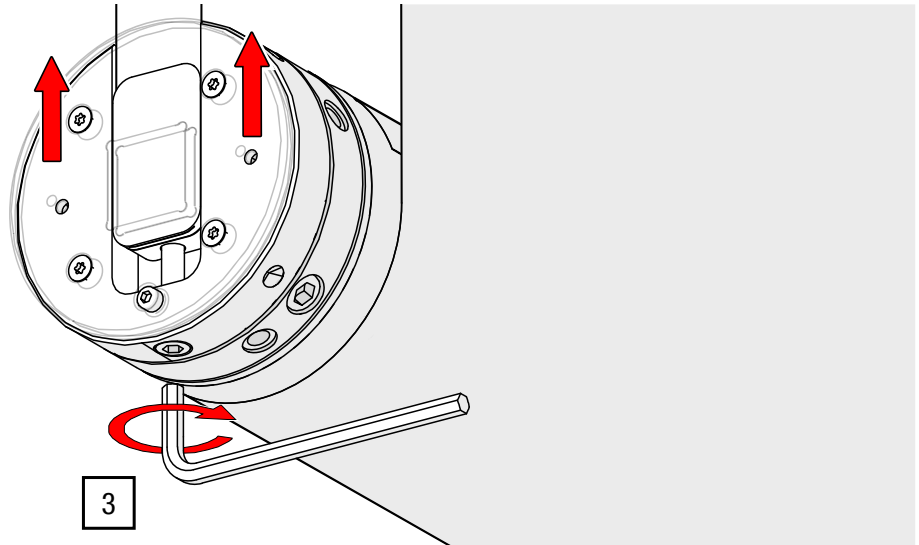

Fig. 35: Setting the levelling – adjusting the winding shaft upwards
- Turn the levelling screw clockwise using an Allen key AF 8 (see Fig. 35).